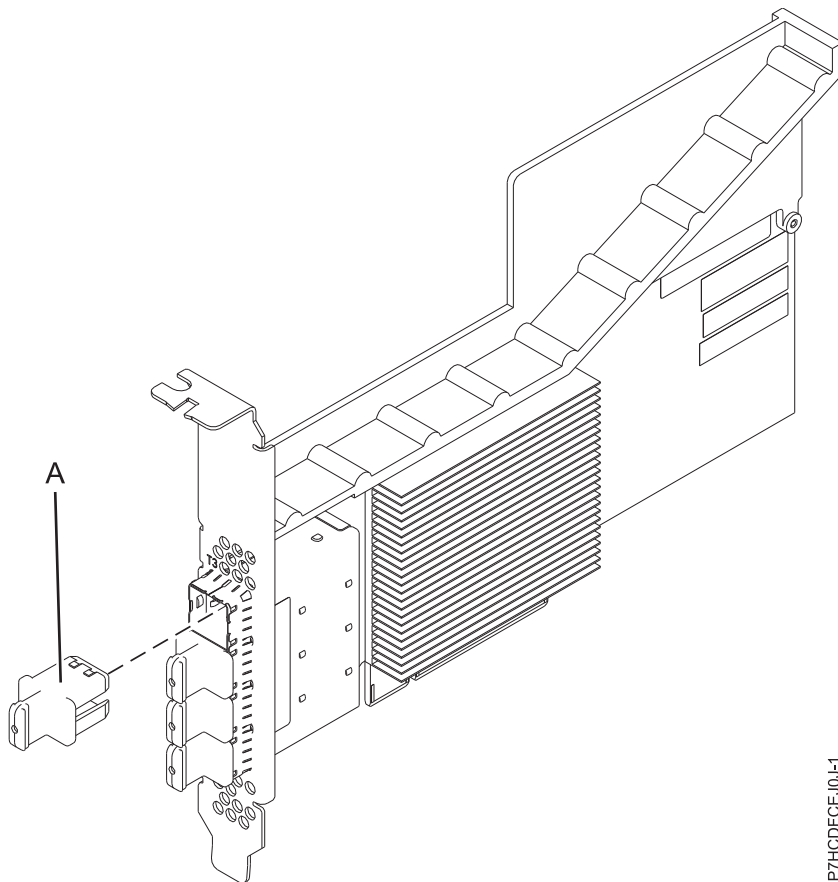

Figure 15. PCIe3 RAID SAS adapter
The PCIe3 RAID SAS quad-port 6 Gb Adapter is a PCI Express (PCIe), generation 3, RAID SAS adapter that has a low-profile, short-form factor, but packaged for full height installation. The adapter is used in high-performance and high-density, serial attached SCSI (SAS) applications. It supports the attachment of SAS disk and SAS tape by using four mini SAS high-density (HD) x4 connectors that allow the physical links to be used in various narrow and wide-port configurations. SAS tape attachment is only supported in a single adapter configuration and cannot be mixed with SAS disk on the same adapter. The adapter does not have write cache. Figure 15 on page 37 shows the PCIe3 RAID SAS quad-port 6 Gb Adapter.
Figure 15 shows the adapter. The connector plug (A) is installed in an empty port and prevents damage to that port whenever a cable for the adjacent port connectors is plugged-in or removed.